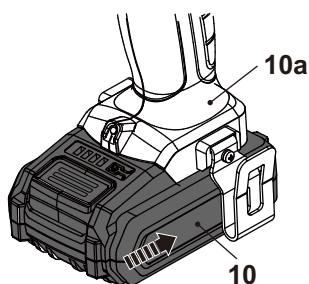

Fig. 4
1. Lock the on/off switch (7) to avoid accidental starting by moving the forward / reverse rotation control (6) into the centre position (see below section “Product functions – Forward / reverse rotation control”).
2. Align the battery pack (10) with the sliding slots of the battery docking port (10a) and slide the battery pack in to attach it. Ensure it clicks in place (Fig. 4).